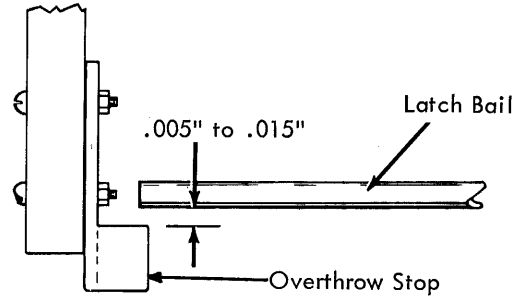

FIGURE 16. Latch Bail Overthrow Stop
14. Latch Bail Stop - The latch bail stop, located just beneath the bail, prevents the bail from getting beneath the selector latches during shipment. Adjust the stop to clear the latch bail by .005" to .015" when the bail is at the high point of the cycle shaft cams (Fig. 16).